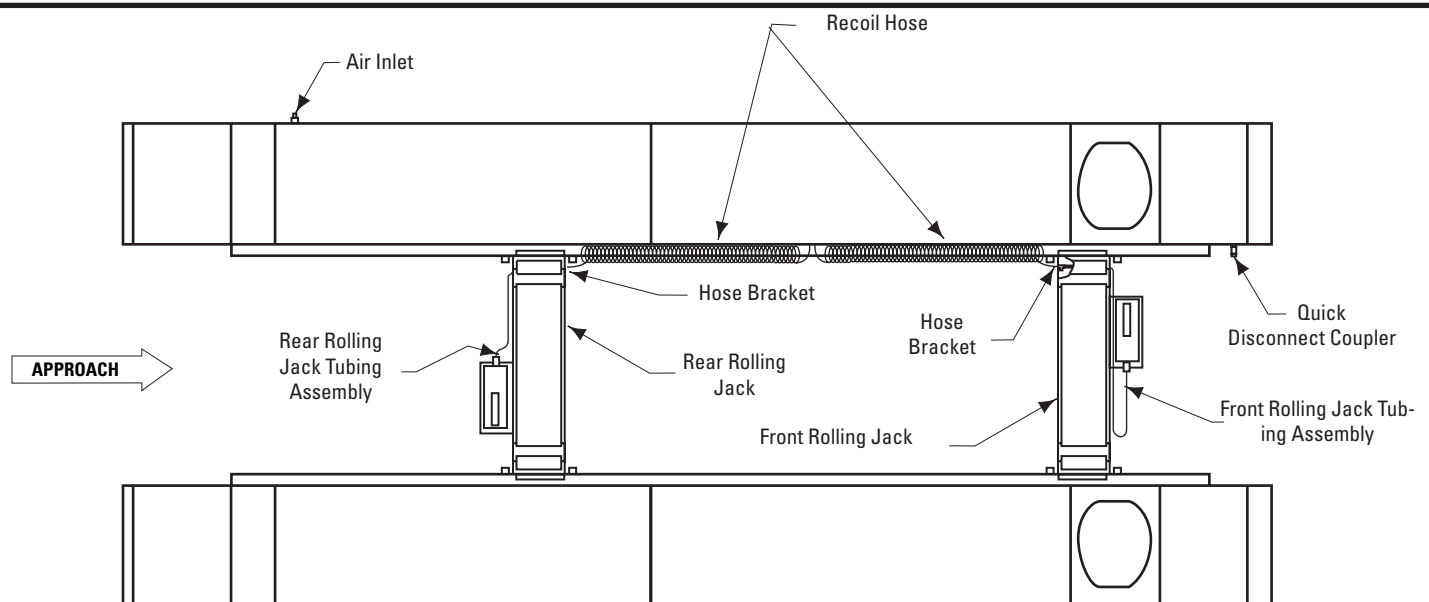

Fig. 29
17. Rubber Stop: Install (2) rubber stops in 1/2" holes 83" from front of runways. Attach using 1/4" Bolt, and Flanged Nut, Fig. 29. Attach (2) additional rubber stops 133" from front of runway on **000/006/010/016 Series lifts**. Attach 167-1/2" from front of runway for **001/007/011/017 Series lifts**.
This lift is equipped with an internal airline that provides air to both rolling jacks and extra access point for air driven tools (Quick Disconnect Coupler), Fig. 29. All internal air lines are factory assembled.